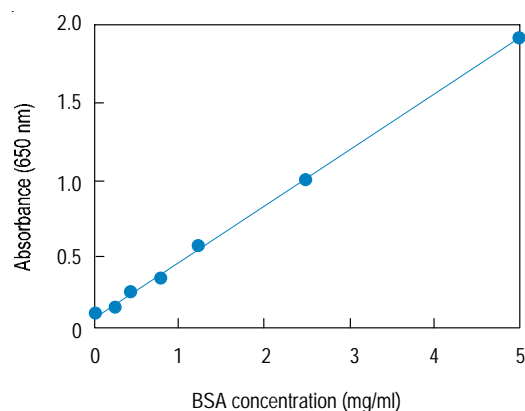

Fig. 8-5 Typical calibration curve prepared using BSA standard solution
8. Plot the concentration of BSA on the X-axis and the absorbance value on the Y-axis to prepare a calibration curve (Fig. 8-5).